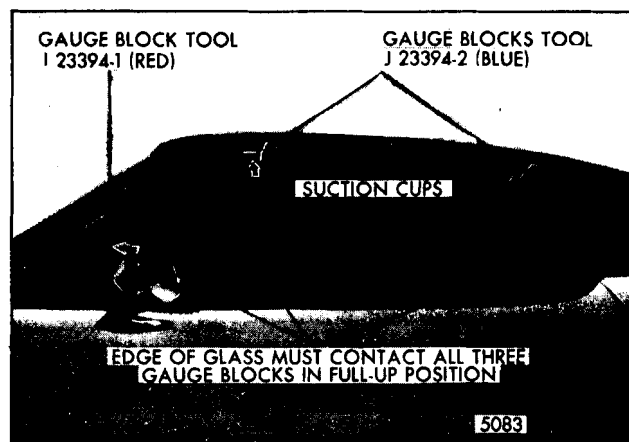

Fig. 6-94-"F" Style Door Window Alignment
6. Lower glass and install gauge block, tool J-23394-1 (red), or equivalent into the windshield pillar retainer slightly above the bellline (Figure 6-94).
If upper and forward edge of glass contacts all three gauge blocks simultaneously (as shown in Figure 6-94), proceed with step number seven. If upper and forward edge does not contact all three gauge blocks simultaneously, loosen fore and aft adjustment on rear guide ("7", Figure 6-91) and move glass forward or rearward until edge of glass contacts all three gauge blocks in full-up position.